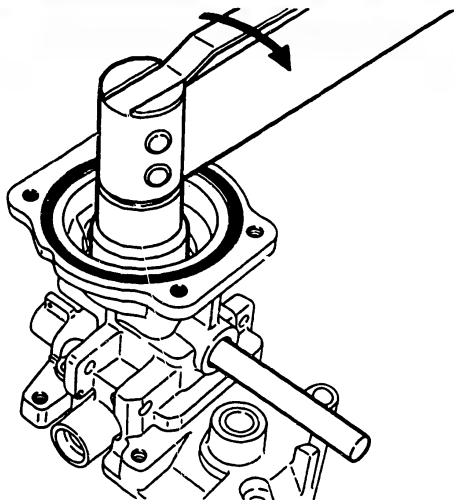

Fig. 77 Tightening the locknut
2. Install the locknut (67/33) and washer (67/32) and then tighten the locknut to fix the screw bushing (67/31) to the specified torque, while using the special tool (KDEP 2617) to ensure that the screw bushing does not move from the above position. (Fig. 77)